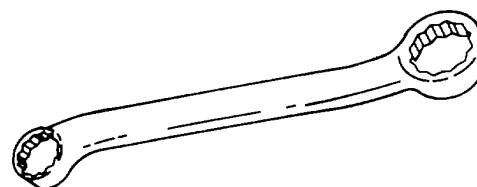
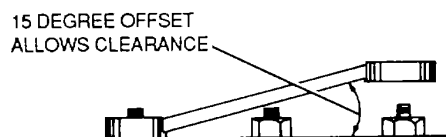

Figure 4-22. Box End Wrenches
Figure 4-23. Box-End Wrench Offset
(2) *Box-end wrenches.* Box-end wrenches have a head on each end of a bar, as shown in figure 4-22. The head completely surrounds the nut or bolt, which decreases the chances that the wrench will slip off the work. Box-end wrenches are available with 6-point and 12-point openings. These openings are offset from the shank at a 15-degree angle to allow clearance, as shown in figure 4-23. A box-end wrench should be used whenever possible because it provides the best protection to both the user and the equipment. These wrenches are sized the same as open-end wrenches.